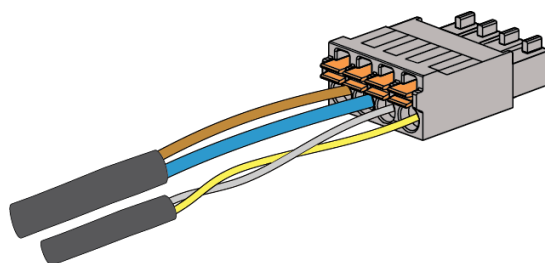

Figure 14: Communication Connector Wiring
6. On each end of the 4-conductor communication cable, strip and insert the wires into the provided 4-pin connectors (Figure 14). On the Powerwall side, use the black connector provided in the accessory bag. On the Backup Gateway side, use the connector that came plugged into the corresponding connector socket in the Backup Gateway.